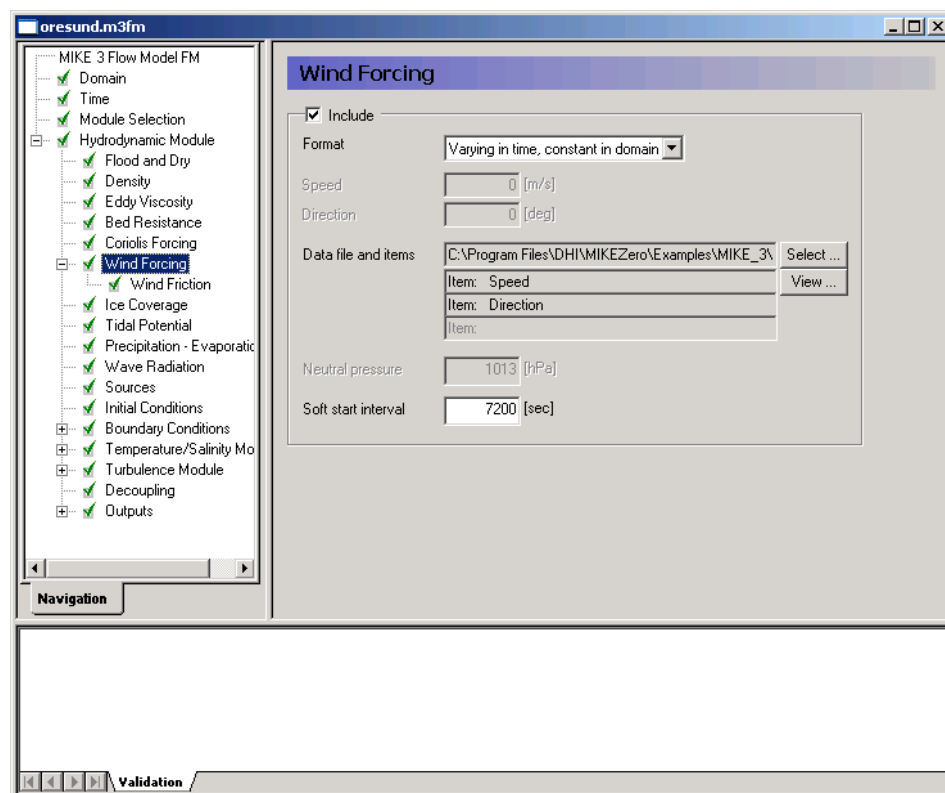

Figure 6.13 MIKE 3 Flow Model FM. Wind Forcing specification
**Note** that an easy way to see the Wind data file is to simply click **View ...** in the Wind Forcing dialogue, see Figure 6.13.